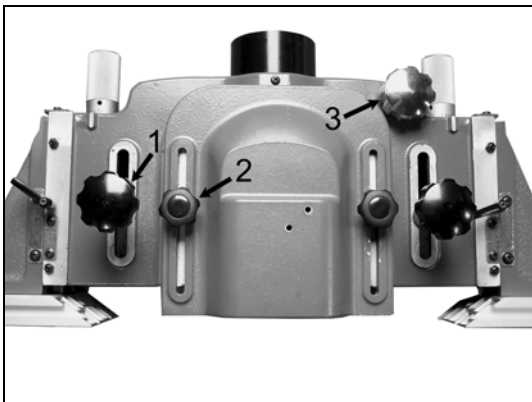

Figure 1
1. The main fence housing can be positioned relative to the diameter of the cutter. Loosen hold down knobs (1, Figure 1) then turn the adjusting knob (3, Figure 1) to move the fence housing to the desired position.
2. The chip guard can be moved out of the way to gain access to the spindle by loosening the lock knobs (2, Figure 1)